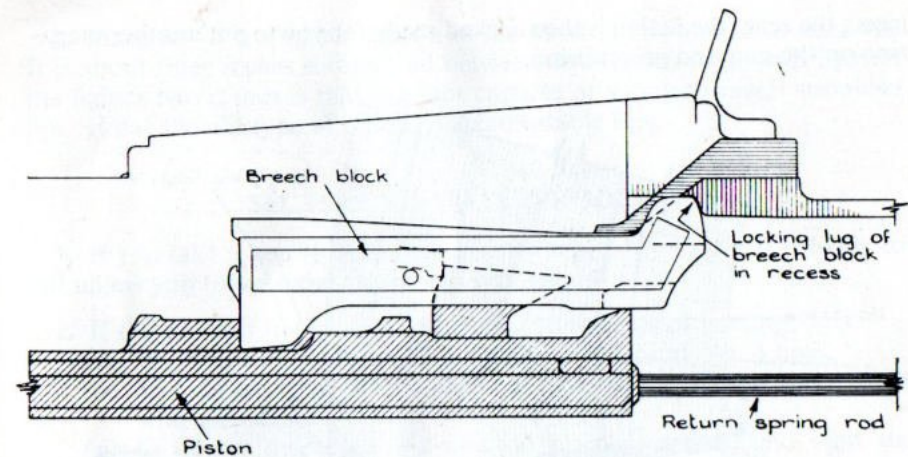

Fig 31.—The mechanism locked
6. As the piston goes forward, the rounded shoulder at its back lifts the back of the breech block, and pushes the locking lug up into the locking recess in the body; this locks the breech and gets the round properly into the chamber, before the piston post strikes the firing pin and fires the round. (See Fig 31.)